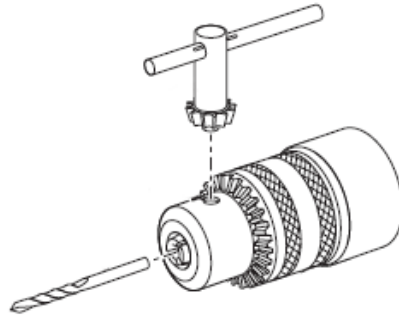

FIGURE 2
2. Insert the base of the accessory into the chuck and with the help of the chuck key, tighten equally on the three attachment positions (figure 2);